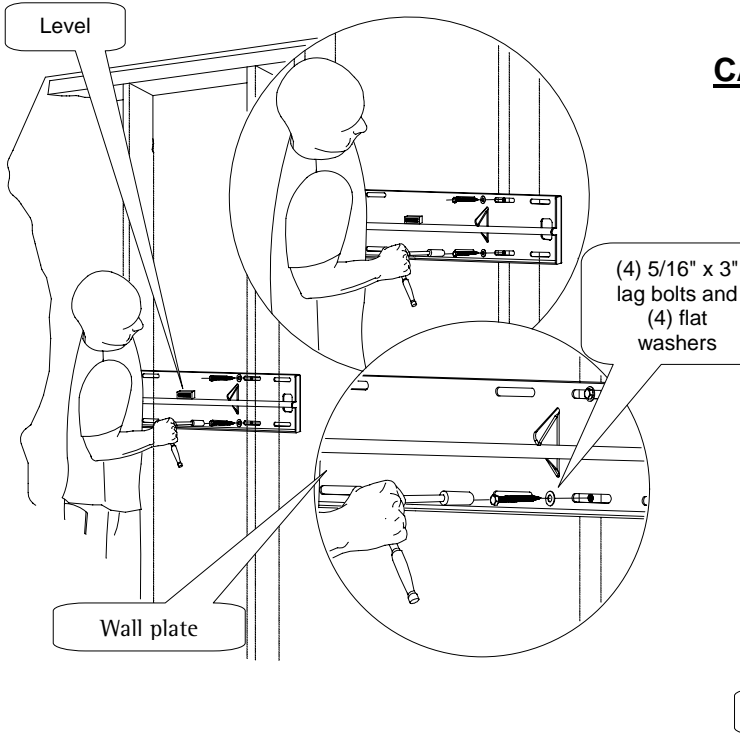

Figure 12
Level and secure the plate to the wall with the reference arrow facing up to the ceiling. Secure the plate using the four (4) 5/16" lag bolts and flat washers (Figure 12).